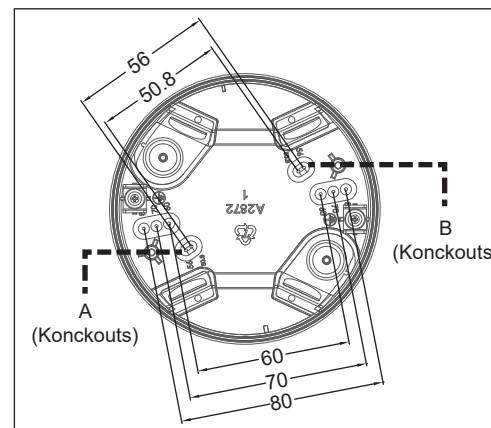

FIG.6
1. There are 5pairs of knockouts with various distances from 50.8mm to 80mm on the bottom cover of combined surface mount box for different mounting applications (See FIG.6). Select two same figures on both ends for the corresponding distance for fixing (See FIG.7).